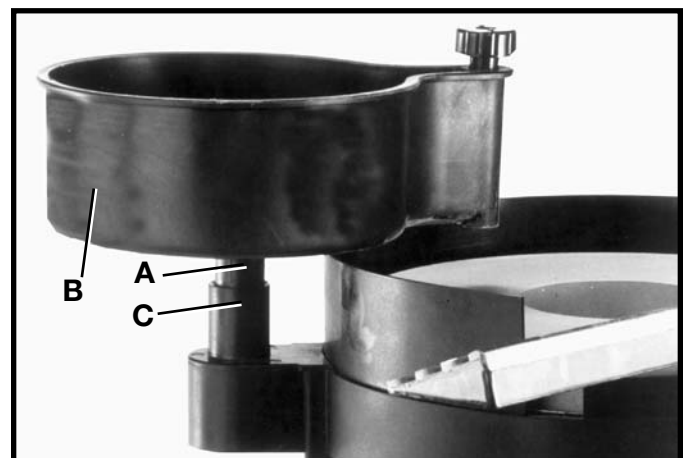

Fig. 18
1. Insert stem (A) Fig. 18, of water tank (B) into holder (C) as shown.